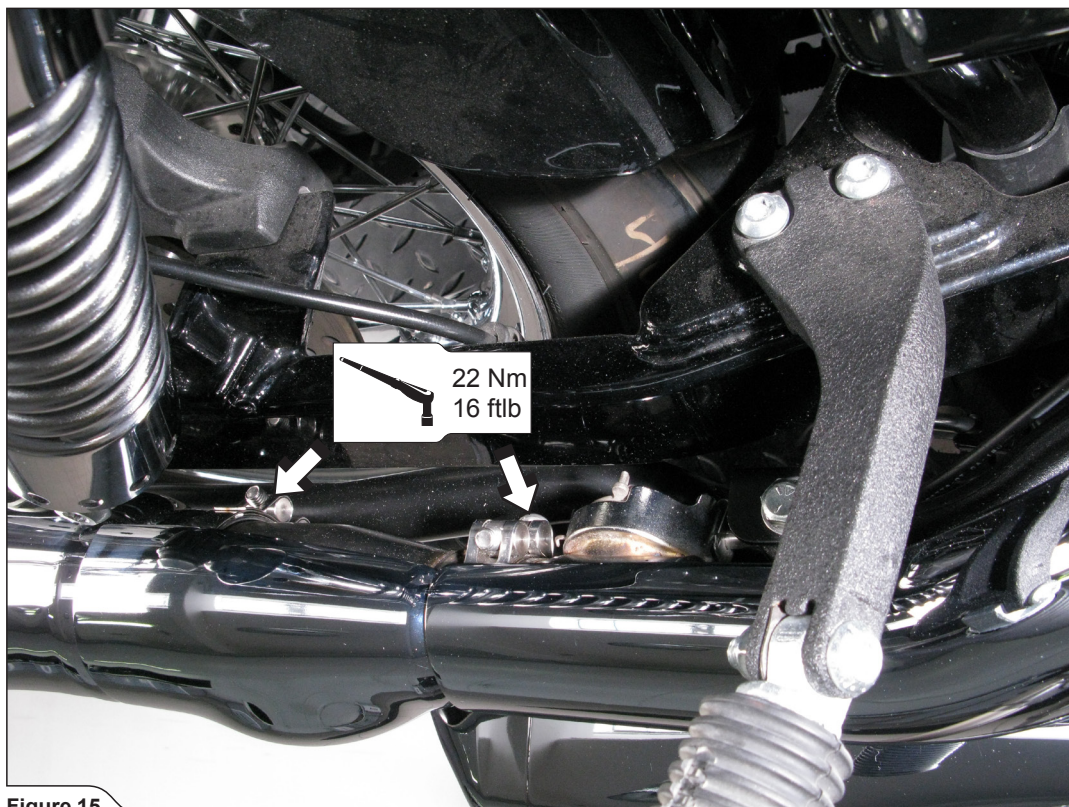

Figure 15
8. Align both link pipes' heat shields in respect to the mufflers and original heat shields and tighten all marked clamps to the specified torque (Figure 15, 16).